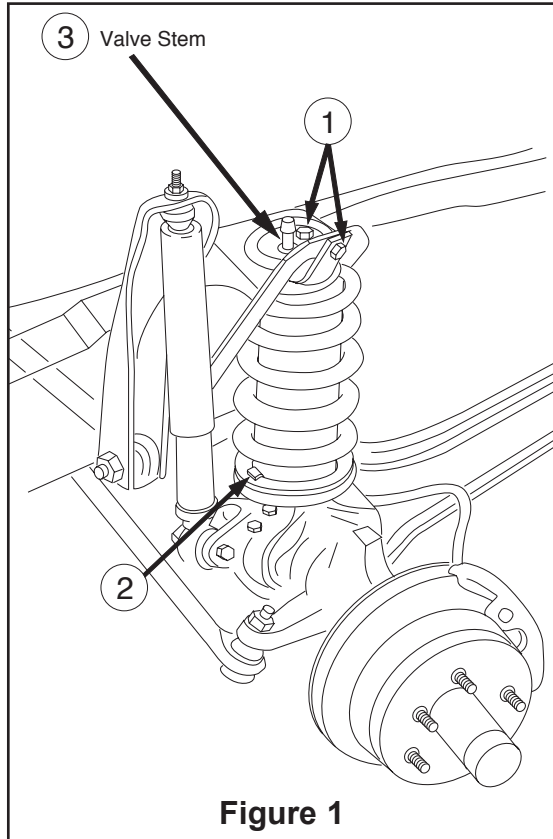

Figure 1
2. Remove the upper spring retaining bolts (Figure 1, Item 1) and strap. Lower axle or raise body until the spring is loose in the upper seat. CAUTION: Do not strain flexible hydraulic brake line. Remove brake line bracket attaching bolt on axle if necessary.
3. Rotate coil spring in lower spring seat beyond locking tabs to allow spring removal (Figure 1, Item 2). On some models, it may be necessary to loosen lower spring seat retaining bolts.
8. Replace coil spring in lower spring seat, insuring that it is under the retaining tab (Figure 1, Item 2).
15. Slowly lower body or raise axle until cylinder contacts upper and lower spring seats. Care should be taken to guide valve stem in the proper location (Figure 1, Item 3).